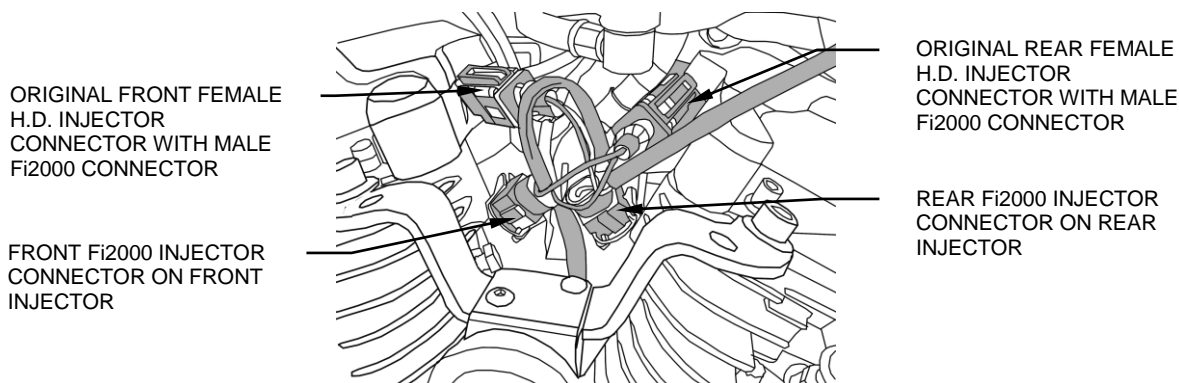

FIGURE 2
5. Using the longer Fi2000 injector harness, mate the Fi2000 female connector onto the front fuel injection connector, (it will look a little different then the stock female Harley connector.) Plug the male Fi2000 connector into the original female Harley connector. Repeat using the shorter harness for the rear injector. Make sure to keep the correct orientation for the front and rear injectors and connector harnesses, see Figure 2.